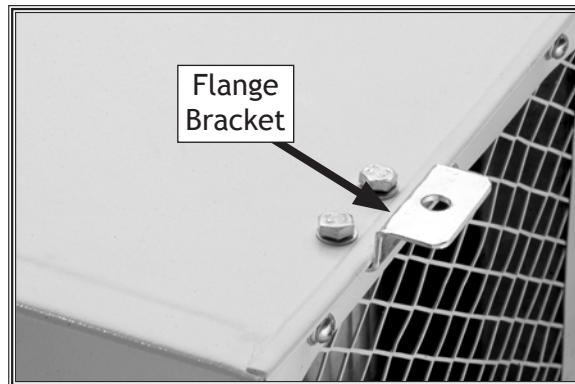

Figure 17. Flange bracket installed.
4. Attach (4) flange brackets to air filter with (8) M6-1 x 10 hex bolts and 6mm flat washers (see **Figure 17**).